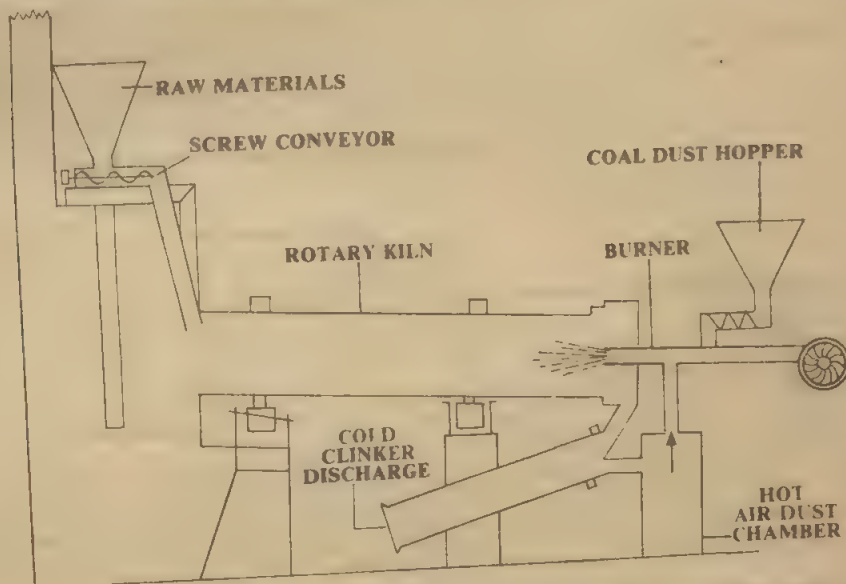

Fig. 11.9 Diagram of Rotary kiln for manufacture of cement
**Manufacture of cement:** Cement is prepared by heating a fine mixture of limestone and clay. For heating, the fine mixture is converted first into a slurry by adding a little water. In some manufacturing plants, the dry mixture of limestone and clay is heated. A rotary kiln, about 50 metres long and 2 to 6 metres in diameter is used for heating (Fig. 11.9). Hot gases obtained by burning powdered coal, oil, or gaseous fuel are passed through the kiln from bottom upwards. Thus, a temperature of about  $1500^{\circ}\text{C}$  to  $1600^{\circ}\text{C}$  is maintained. The product, known as clinkers, is cooled to atmospheric temperature, mixed with a little gypsum and then powdered.